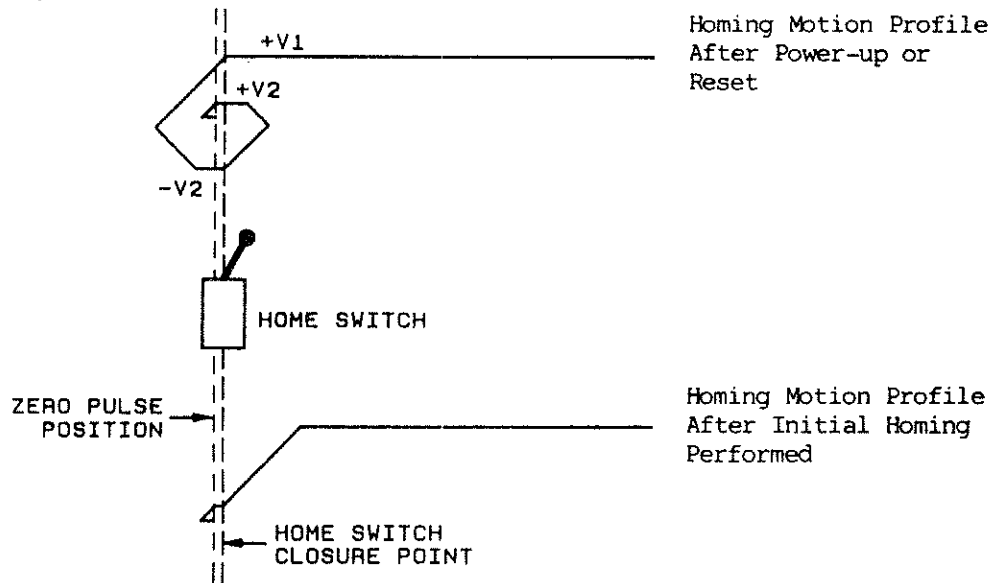

Figure 7-5. Homing Motion Profile
2. If the slide is not on the Home limit switch it moves in "reverse" toward home until the switch closes as shown in the motion profile in Figure 7-5. It then decelerates, reverses direction and moves "forward" off the switch. If the slide is already on the switch when the command is issued, it moves forward off the switch.